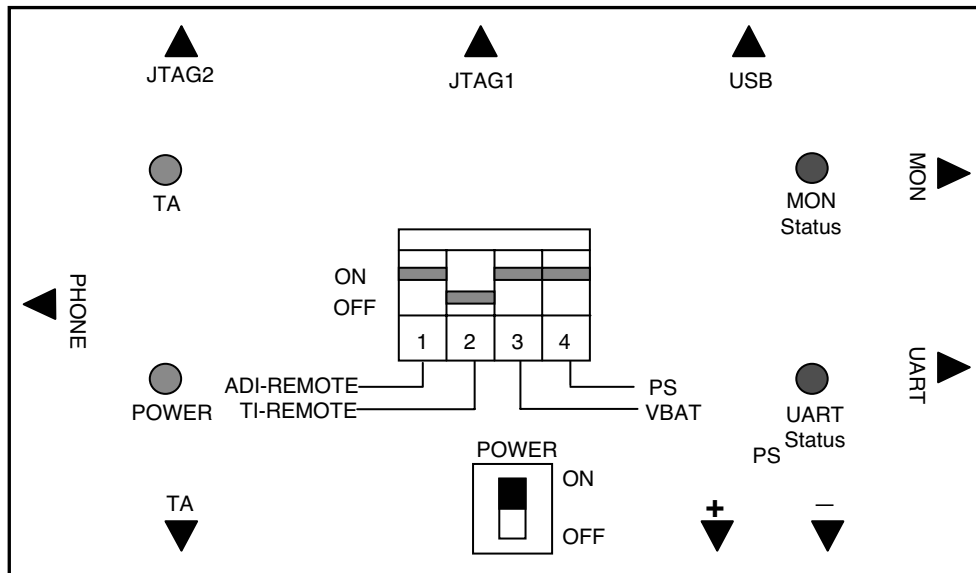

Figure 12.2.2 The top view of Test JIG
1. Connect as Fig 12.2.2 (RS232 serial cable is connected between COM port of PC and MON port of TEST JIG, in general.)